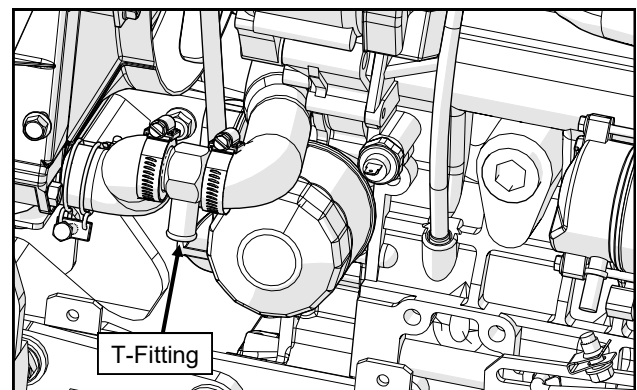

Figure 2.5 (Install T-Fitting in Lower Hose)
- 2.5 Place the two 1.5" hose clamps on either side of the cut lower hose and install the T-Fitting pointing down. See Figure 2.5. Tighten the hose clamps.